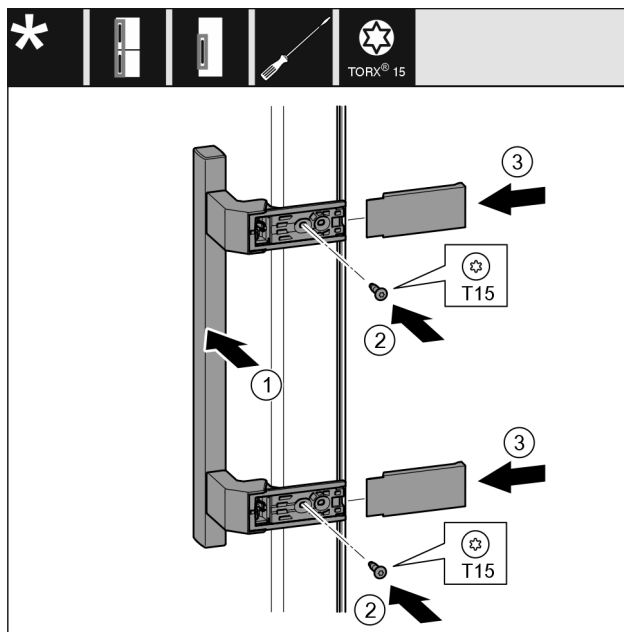

Fig. 21
- ▶ Place the handle *Fig. 21 (1)* on the opposite side.
- ▶ Tighten screws *Fig. 21 (2)* with screwdriver.
- ▶ Place the covers *Fig. 21 (3)* on the side and push them on.